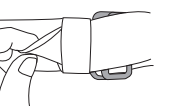

Fig. 1
2. Place around waist and hold in position on waist using your inner arms/elbows. Bend forward and pull belay loop up through your legs using your right hand still holding waist in position. Fig. 1 & 2.